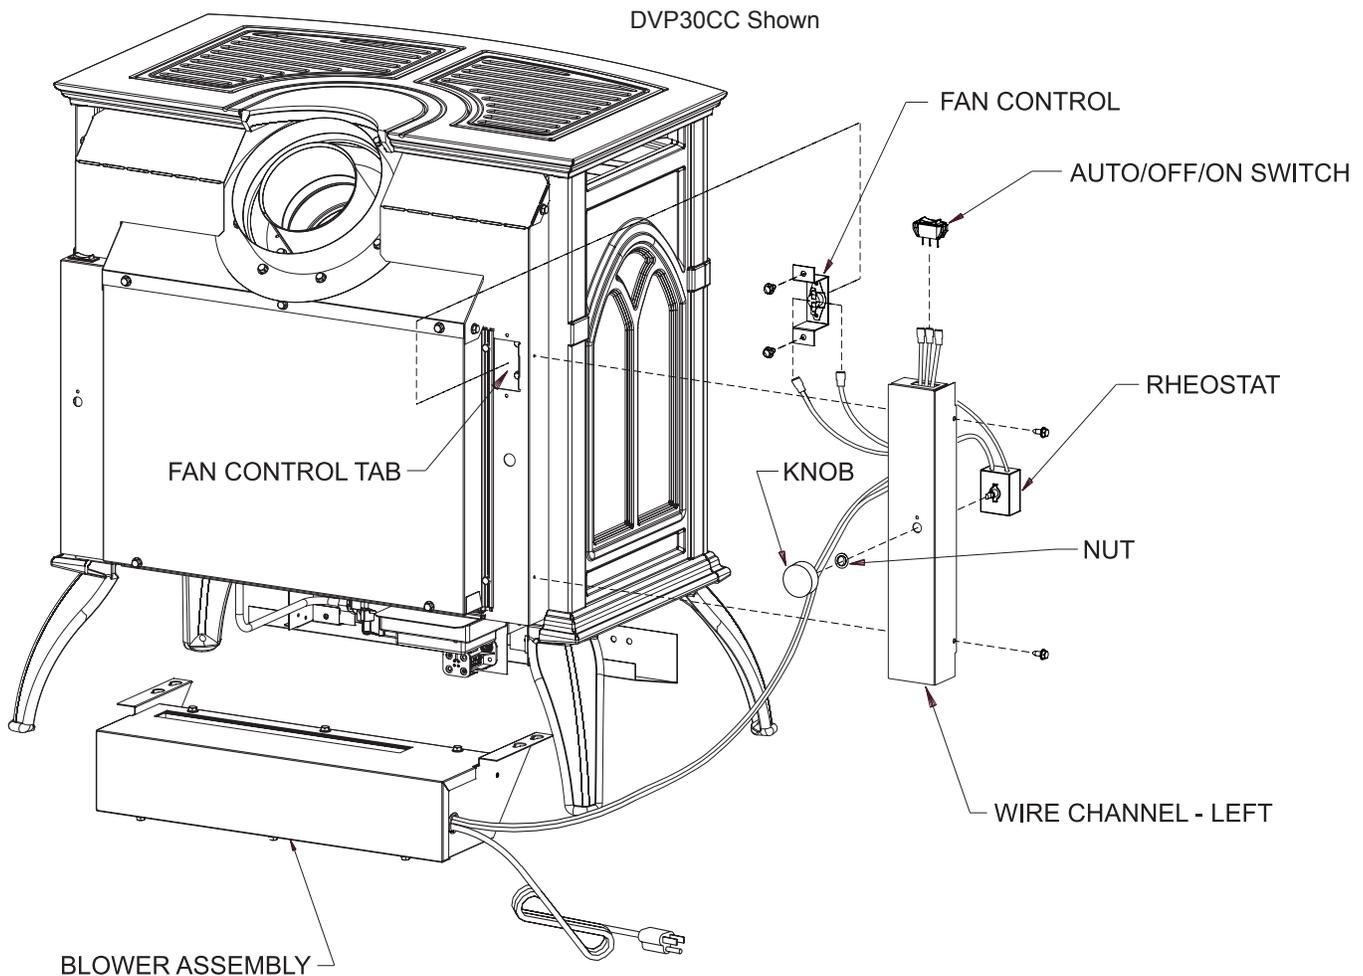

Figure 28 - DVP30CC Shown
- Remove wire channel-left from appliance by removing 10 x 1/2" screws on left side of the appliance. **Note:** Some units require a new wire channel. If Rheostat mounting holes are missing from part removed from unit, discard wire channel removed from unit and continue installation with appropriate wire channel shipped with blower. See Figure 28.
- Bend the fan control tab, located on the left side of the back of the unit, inward toward the unit. See Figure 28. Be sure tab is bent at least 90 degrees to allow fan control bracket to slide into slot.